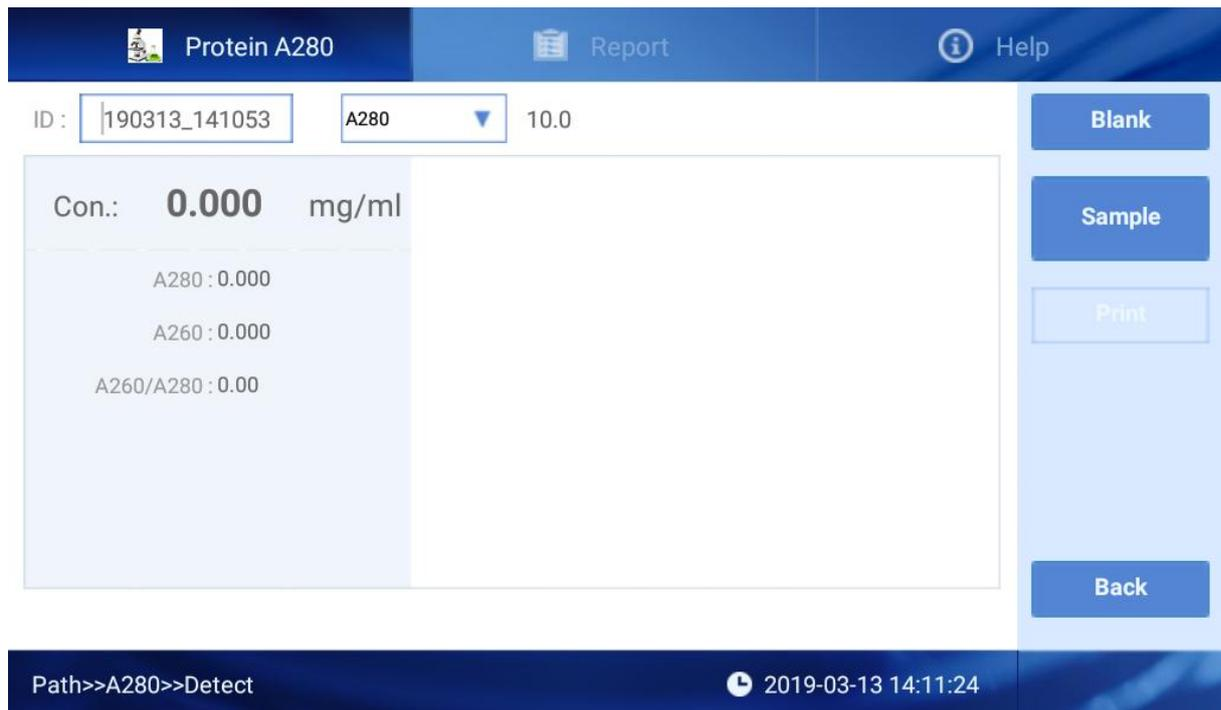
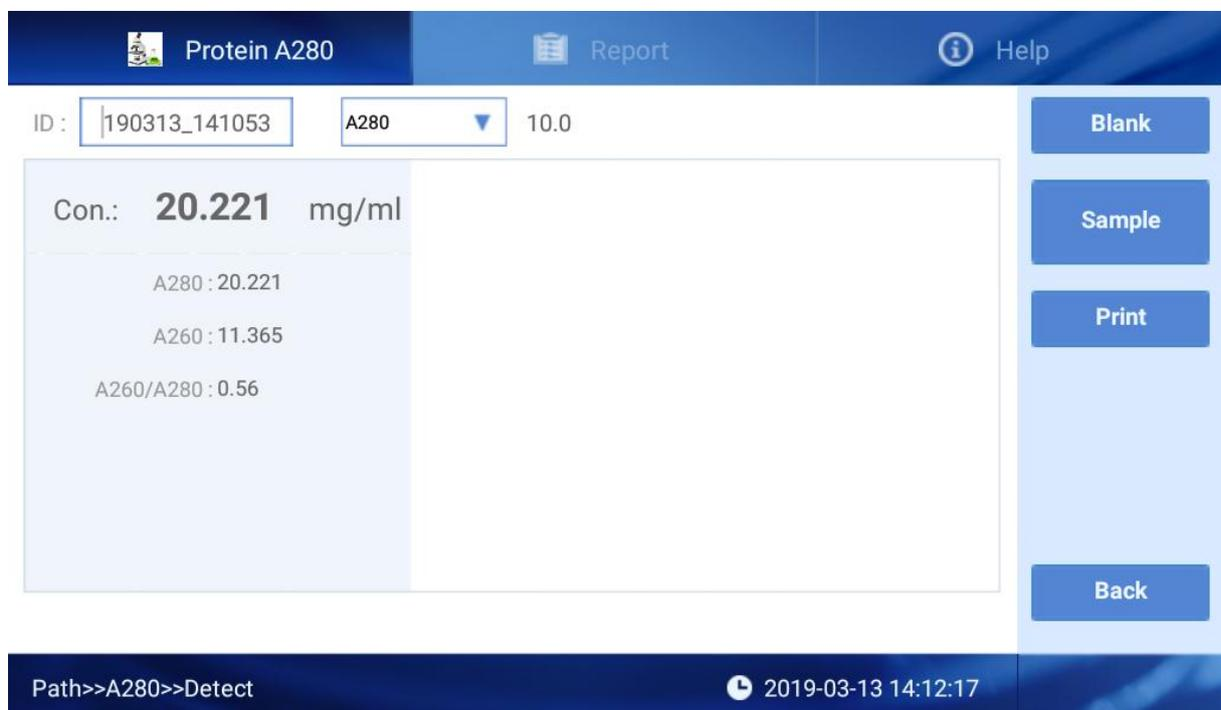

Fig 4.7 Protein detection interface
Fig 4.8 Result of Protein measurement
As Fig 4.7, select results by clicking the file name, or can select one or all of the results as showed on Fig 7, users also can operate by buttons on the right:
Click “Protein A280” enter the interface Fig 4.7.
As Fig 4.7, there are three options at the top of the screen, Protein A280, Report, Help.
1) Interface Fig 4.7, only the light blue area is clickable.
① : The sample batch No., default value is the current time, users can also edit ID by themselves. One ID can include as many as 1000 detection results.
② : Click to choose Protein type.
③ : Blank the buffer, this step is essential before measurement. Blank absorbance value is during 0.004-0.04 Abs. The validity of blank control is 30 min and after 30 min, the system will automatically remind you to make blank detection.
- ① Set the batch NO. and Nucleic Acids type;
- ② Clean the upper and lower pedestals with dust proof paper, input the 2 μ L buffer solution to make blank;
- ③ Clean the buffer solution on the ower pedestals with dust proof paper;
- ④ Measure sample with volume of 2 μ L. Click “Sample” and then enter the interface as Fig 4.8;